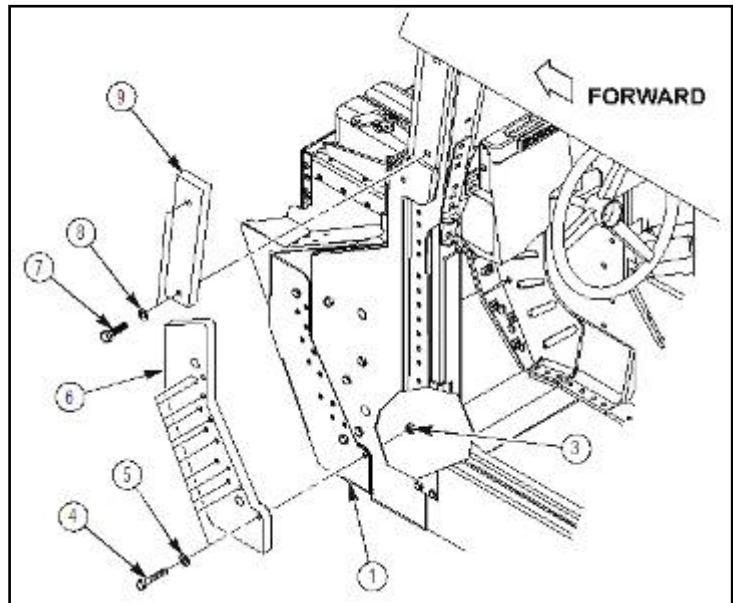

Figure 30b
27. Install 6435017-01M1 or 6435017-200M1 front door header panel IED overlay (9) on vehicle body (1). Push forward towards front of vehicle and secure with two 4397000-068 capscrews (7) and 4397005-015 washers (8) as shown in figure 30b. Tighten capscrews (7) to 23 lb-ft (31.2 N·m).
28. Install 6435225-01M1 or 6435225-200M1 left A-pillar underbody overlay (6) on vehicle body (1). Push forward towards front of vehicle and secure with twelve 4397000-069 capscrews (4), 4397005-014 washers (5), and 4397064-005 locknuts (3) as shown in figure 30b. Tighten locknuts (3) to 37 lb-ft (50.2 N-m).